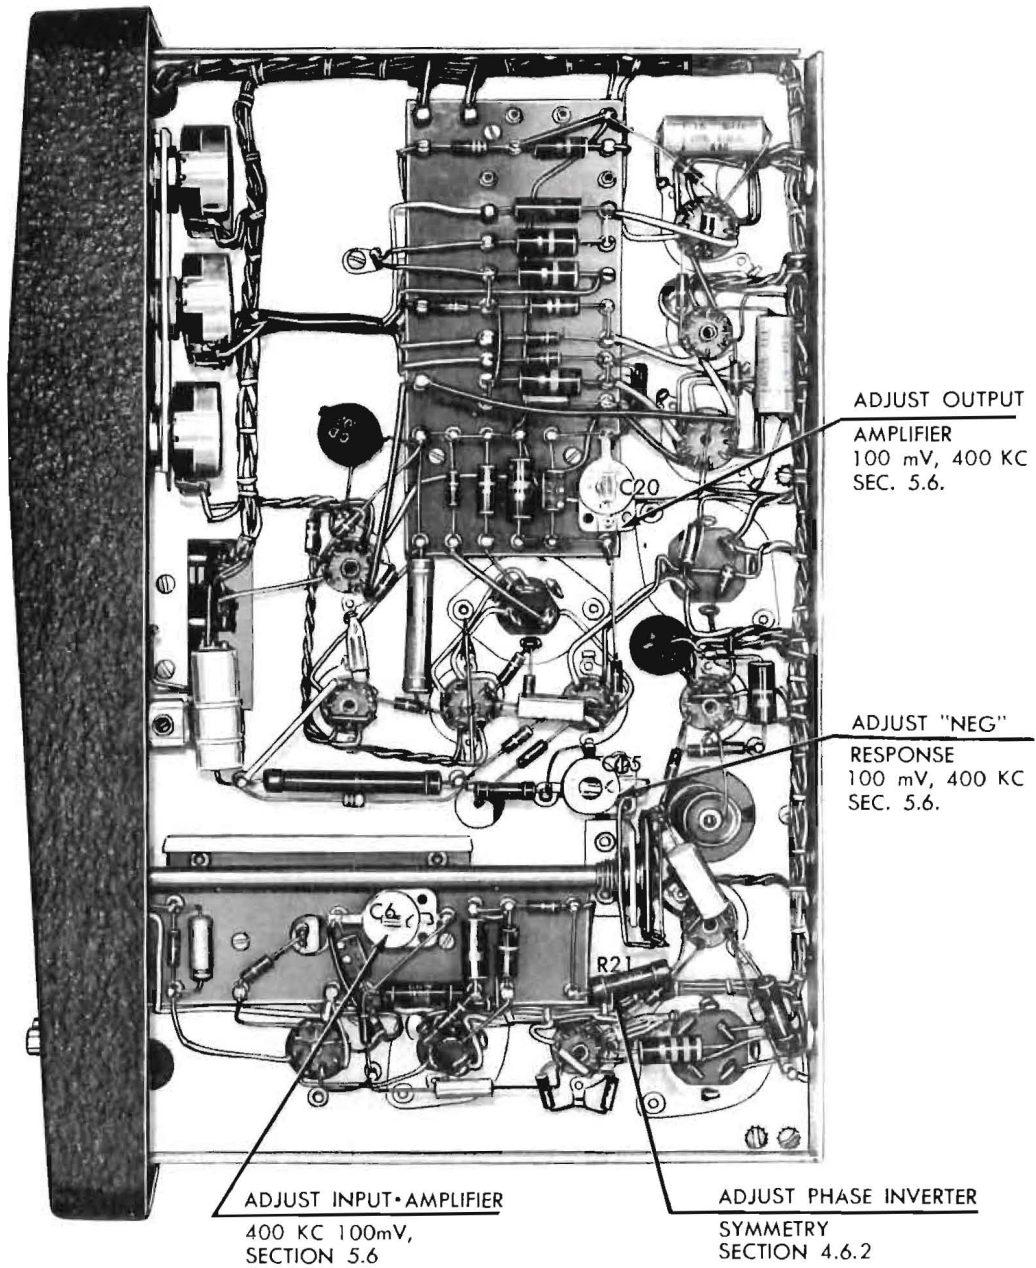

Fig. 2
Shunt R21 when the NEGATIVE response is higher. 1 megohm gives approximately 1% correction. (Fig. 2)
- Keeping the micropotentiometer output constant, increase the frequency to 400 kc. The voltmeter should indicate 0.5 to 1% below the previous reading. If not, adjust C6 and C20 to specified limits. Adjustment of C6 and C20 should be made so that both trimmers will have approximately the same capacitance value. The location of C6 and C20 is shown on photograph (Fig. 2).